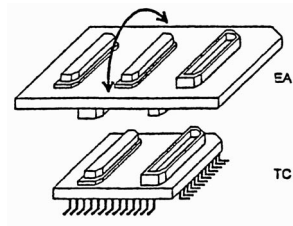

Figure 2-6-2. How to Insert/Remove EA and TC
- (1) Insert EA, MA, CA, or SA in target connector (TC) so that the position of pin 1 (where the corner is cut) on each board matches.
- (b) Remove or insert the adapter in the correct direction. (Figure 2-6-2)
Use a bamboo spit or similar object as a tool to remove the connector. Insert the tool between TC and EA and remove TC in the correction direction as shown in Figure 2-6-2. If force is applied to the connector in the wrong direction, the connector will be damaged.